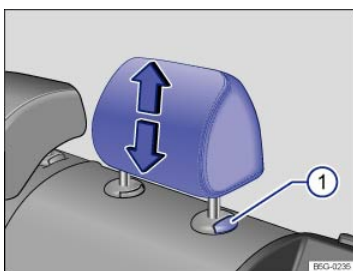

Fig. 83 Adjusting the rear head restraints.
- Pull the head restraint up in the direction of the arrow, or push it down while pressing the button ⇒ Fig. 83① ⇒ ▲.